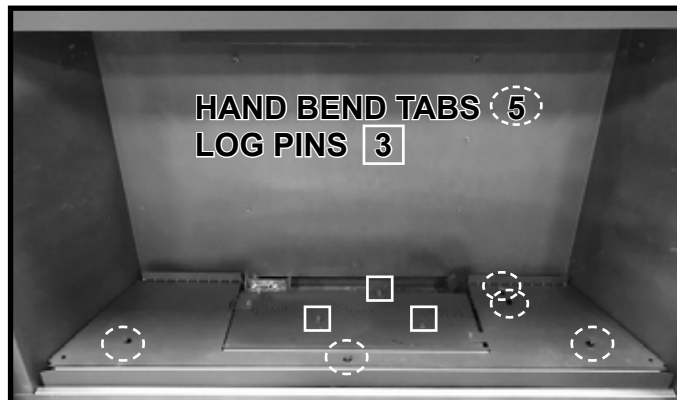

Figure 3. Hand Bend Tab and Log Pin Locations
1. Locate the five hand bend tabs on the base pan and bend each tab up to 90 degrees. Note the locations of the three log pins. See Figure 3.